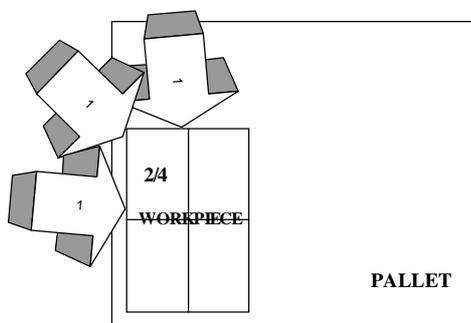

Fig 6.2 Reference 1
1. If all step approach directions are on 1/4 area on the basis of the work position which is to be stacked on the pallet, select “0” as the work approach direction. (refer to fig 6.2)